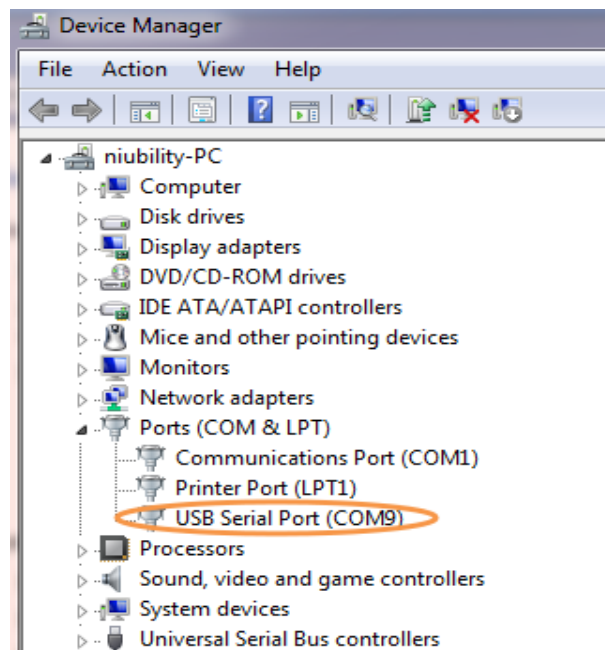

Figure 6-9 Check the Assigned Com Port Number On PC
- Open the Device Manager to ensure which common port is assigned to the UART to USB port as shown in **Figure 6-9**. The common number 9 (COM9) is assigned on this computer.